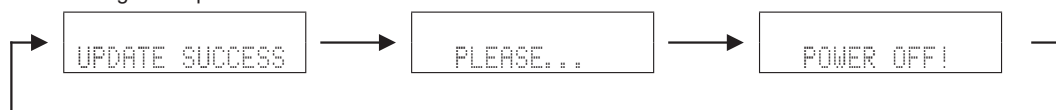

Fig. 3
4. When writing of the firmware is completed, "UPDATE SUCCESS", "PLEASE..." and "POWER OFF!" are displayed repeatedly. (Fig. 3)